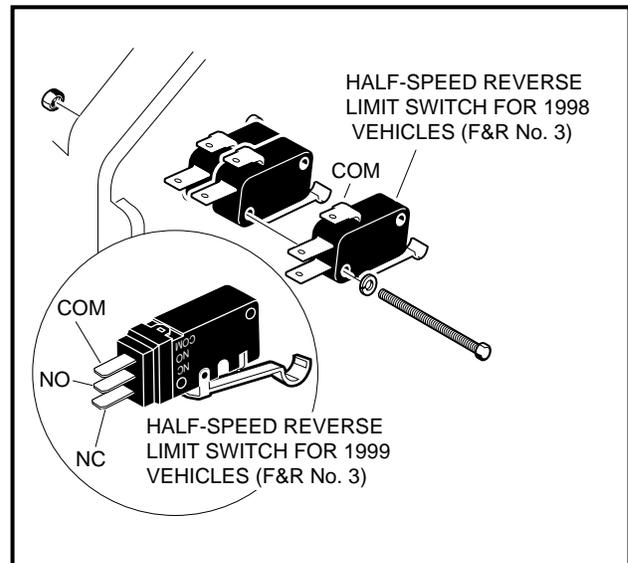

Figure 11-29 F&R Limit Switch
2. Using a multimeter set to 200 ohms, check continuity across common (COM) and normally open (NO); and across common (COM) and normally closed (NC) (**Figures 11-29 and 11-30, Pages 11-21 and 11-22**). With the limit switch lever up (not depressed), readings should be: